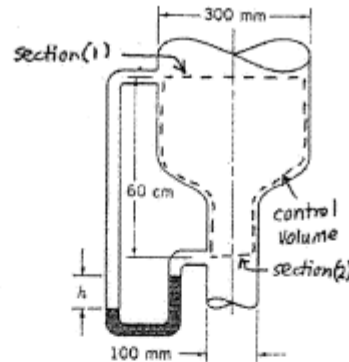

FIGURE P5.102
5.102 Oil ($SG = 0.9$) flows downward through a vertical pipe contraction as shown in Fig. P5.102. If the mercury manometer reading, h , is 100 mm, determine the volume flowrate for frictionless flow. Is the actual flowrate more or less than the frictionless value? Explain.